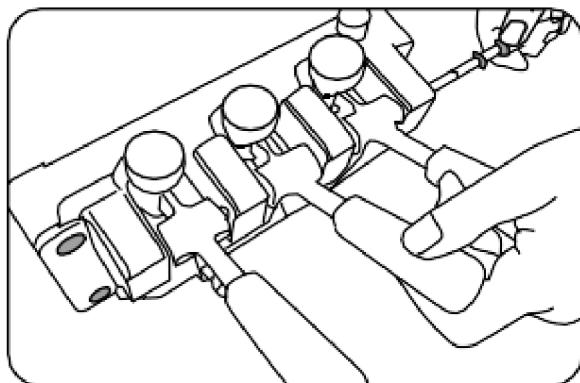

Figure 5-6
9. Slide Pivot Pin into place (Figure 5-6.)